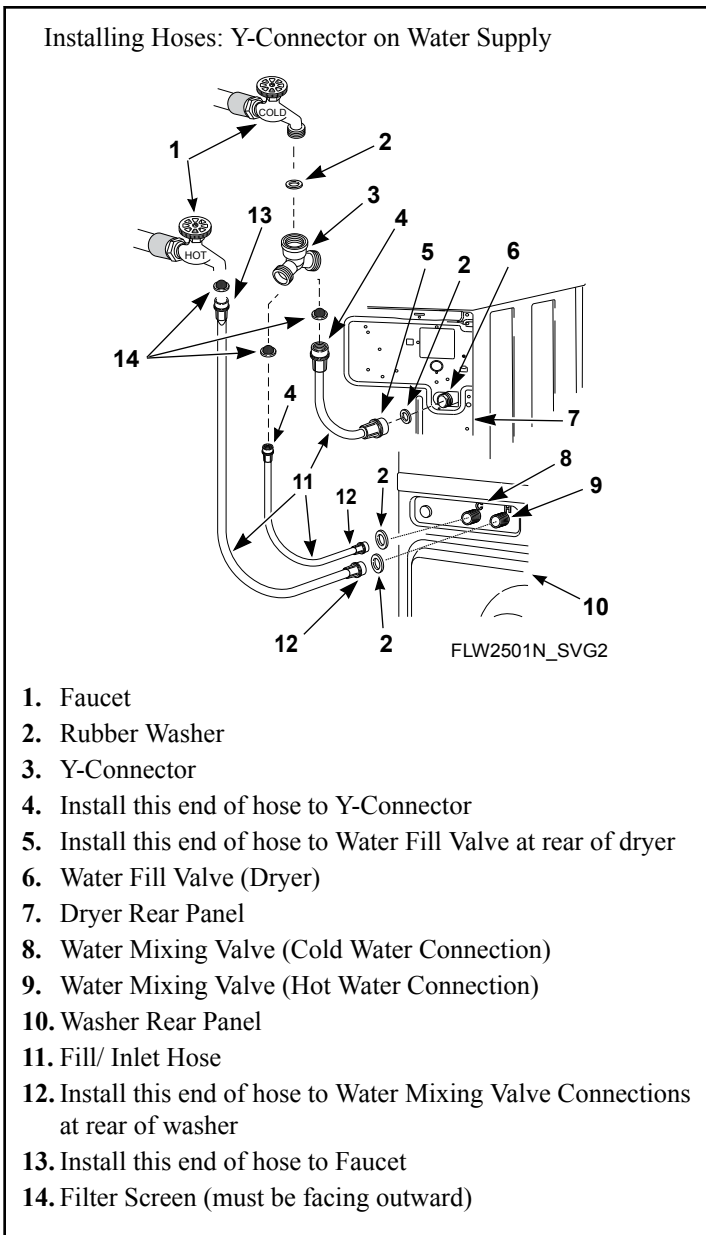
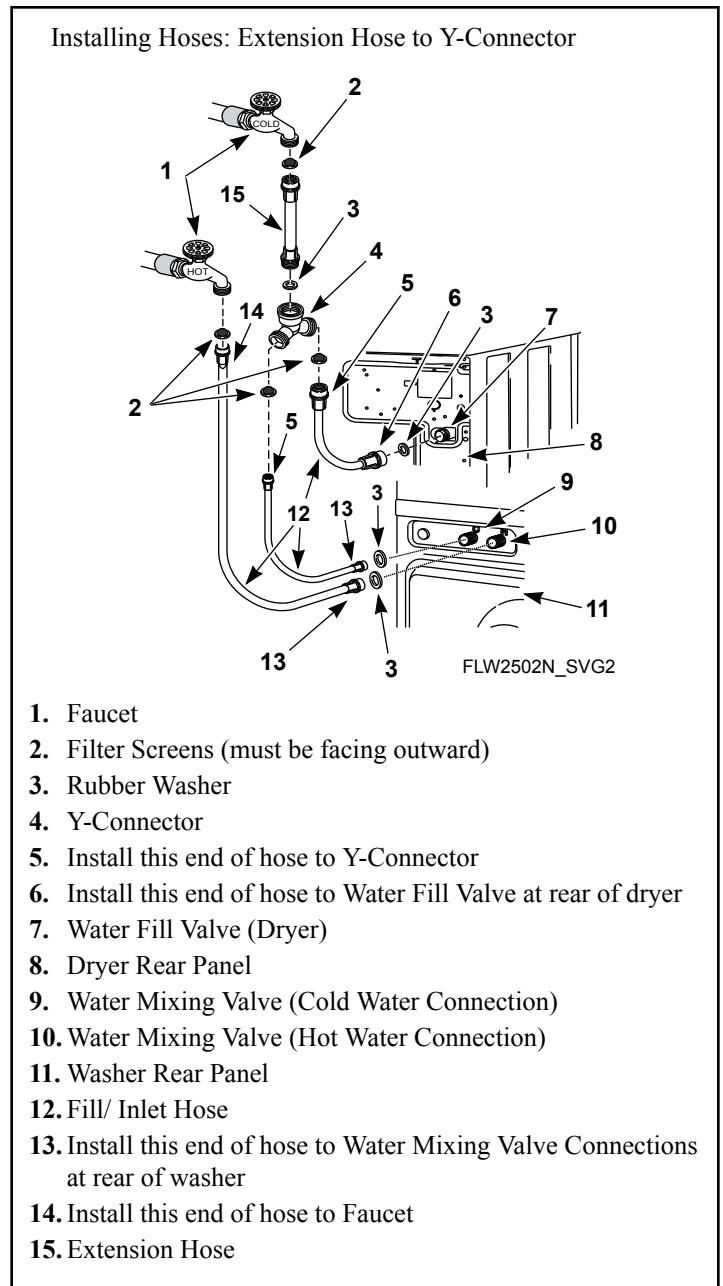

Figure 6
Figure 7
4. Install Y-connector onto cold-water supply faucet (use extension hose if Y-connector cannot be installed directly on water supply). Refer to *Figure 6* and *Figure 7*.